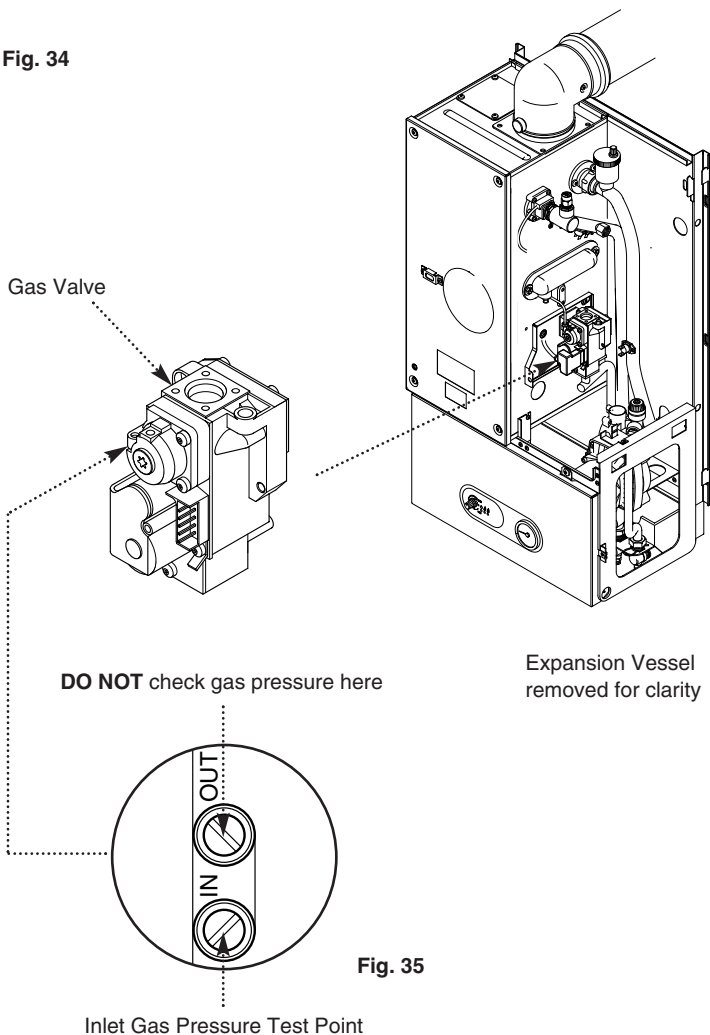

Fig. 35
7. With the system cold and all controls calling for heat check the gas pressure at the inlet tapping of the gas valve (Fig. 35). The pressure must be a minimum of 18.1 mbar.